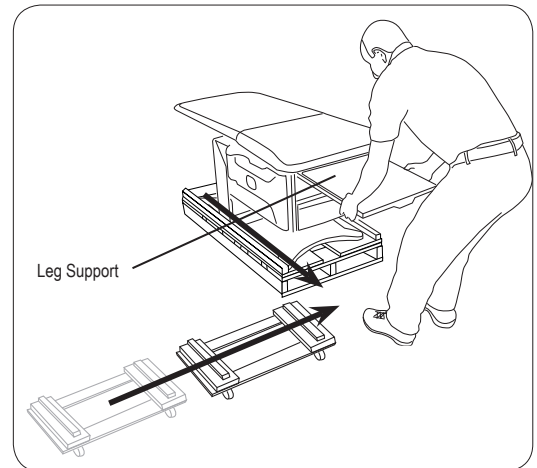

Figure 14. Slide table off of pallet
14. Use leg support to slide table partially off of pallet. Stop when there is sufficient room to place a furniture dolly beneath base of table. Finish pulling table onto furniture dolly (Figure 14).